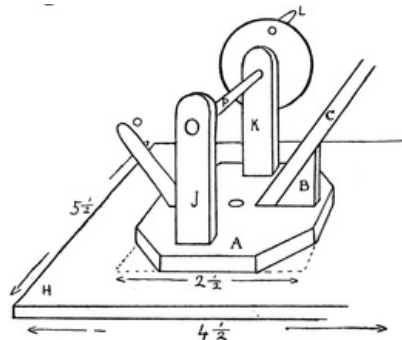

FIG. 304
**A Crane.** *Foundation, Arm, Pulley.* Cut a piece of wood about  $5\frac{1}{2}$  inches by  $4\frac{1}{2}$  inches (H in Fig. 304). Cut a second piece a square, A, side  $2\frac{1}{2}$  inches. Cut off the corners. This forms a stand on which the crane, etc., is fastened.
*Winding Gear.* Cut two pieces of stripwood,  $\frac{1}{4}$ " x  $\frac{1}{2}$ " x 2", J and K in Fig. 304. Round their tops, drill and enlarge holes in them.